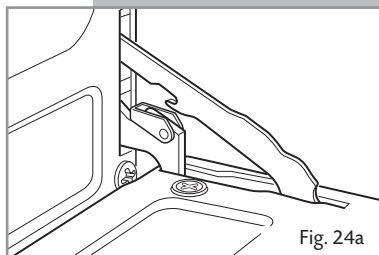
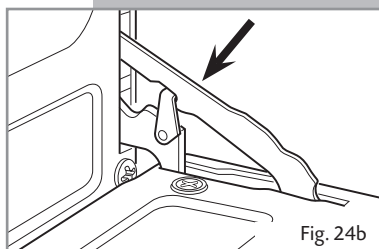

Fig. 24a
Fig. 24b
- The swivel retainers of the rh and lh hinges (fig. 24a) are hooked onto the metal bar above them (fig. 24b).
- Open the door to the full extent (fig. 24a).
- Attach the swivel retainers of the rh and lh hinges onto the metal bar above them (fig. 24b).
- Unlock the oven door by opening it completely and detaching the swivel retainers of the lh and rh hinges from the metal bar above them (fig. 24a).